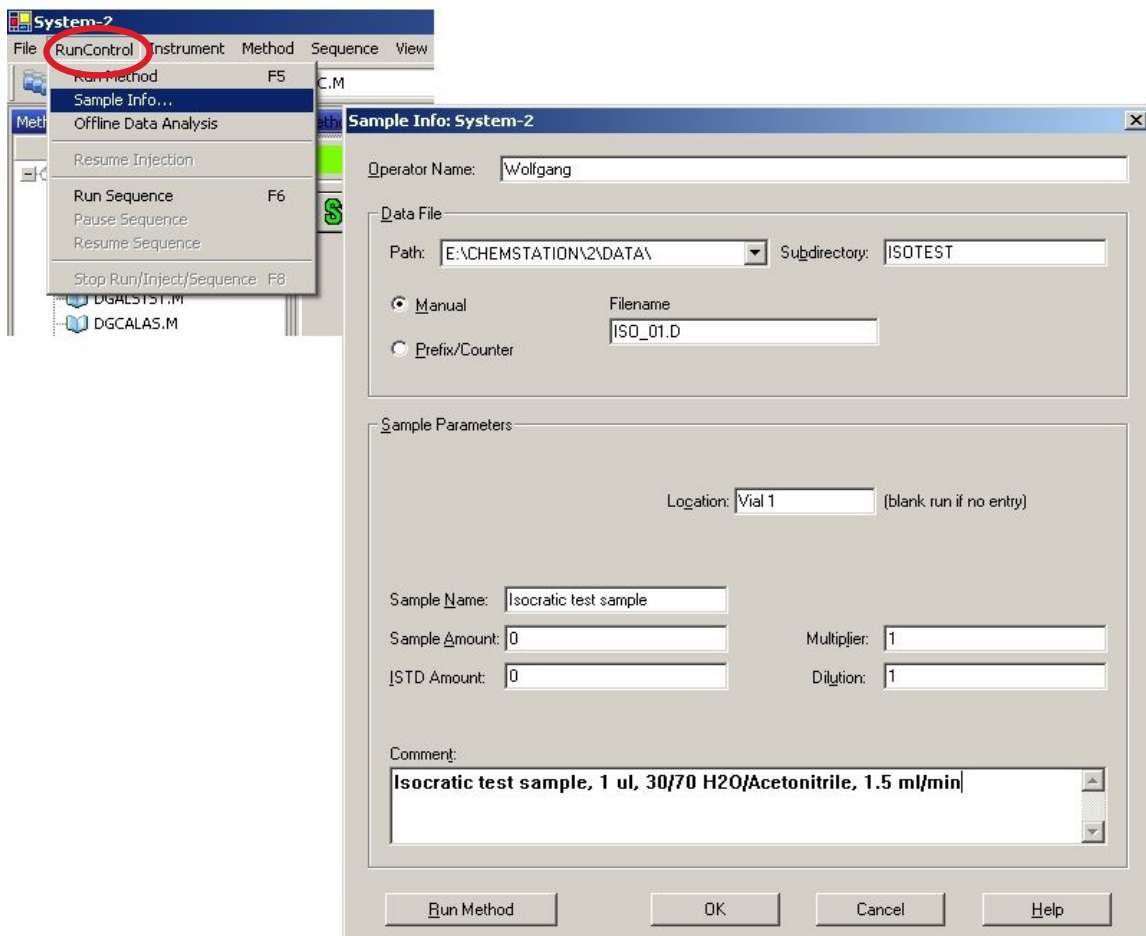

Figure 22 Sample Information
- 14 Select the menu item **RunControl** > **Sample Info** and enter information about this application (Figure 22 on page 64). Press **OK** to leave this screen.